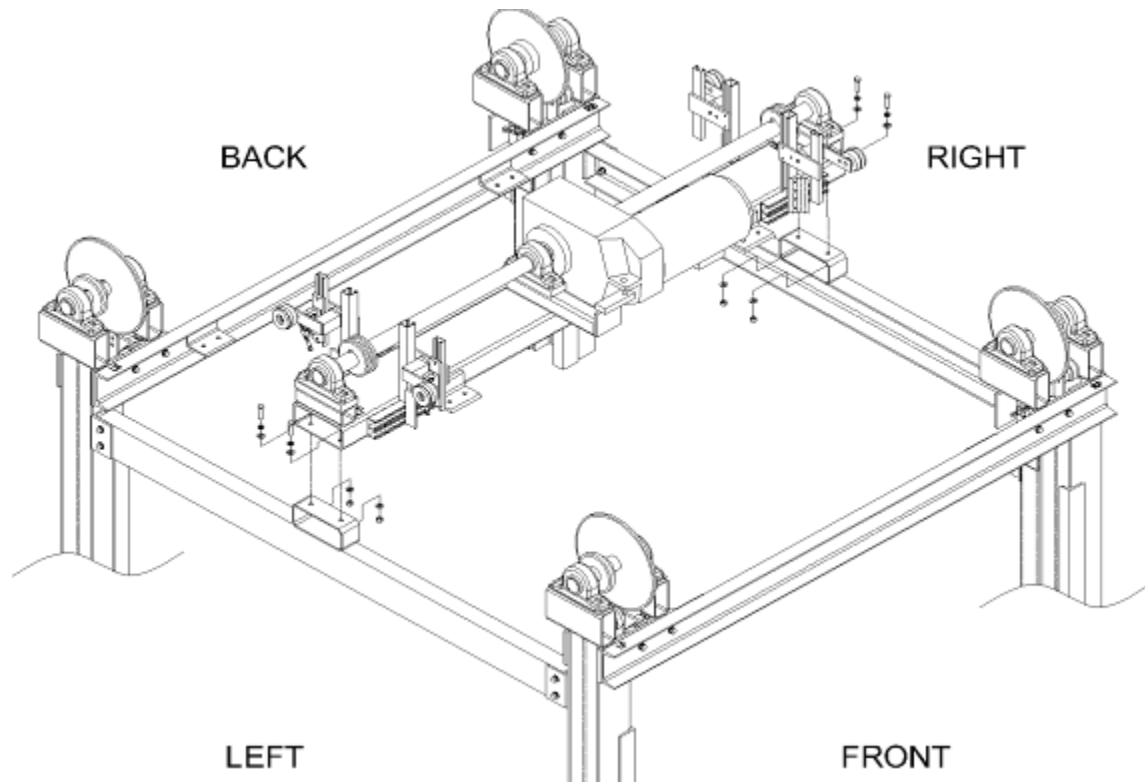

Figure 26 Drive Base Attachment
F. DRIVE BASE INSTALLATION DETAILS (Reference Figures 26 through 28)
1. Raise the drive base into position above the mast beams in the orientation shown in **Figure 26** and bolt into place using the 1/2" x 5" long hex head cap screws provided. Torque to 99 ft-lbs.